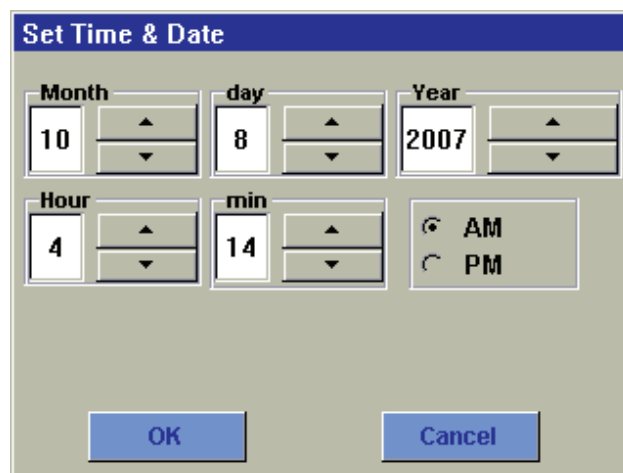

Fig. 110 – Date and Time
4. Select Date and Time. Figure 110 shows the setup screen.